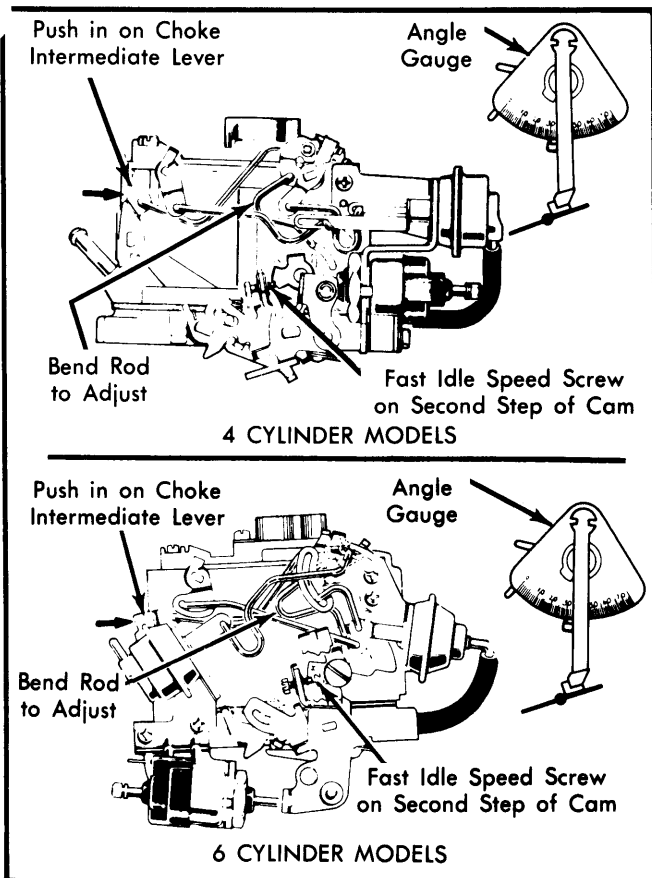

Fig. 5 Adjusting Choke Rod (Fast Idle Cam)
- 1) Place fast idle speed screw on second step of fast idle cam against shoulder of highest step. See Fig. 5.